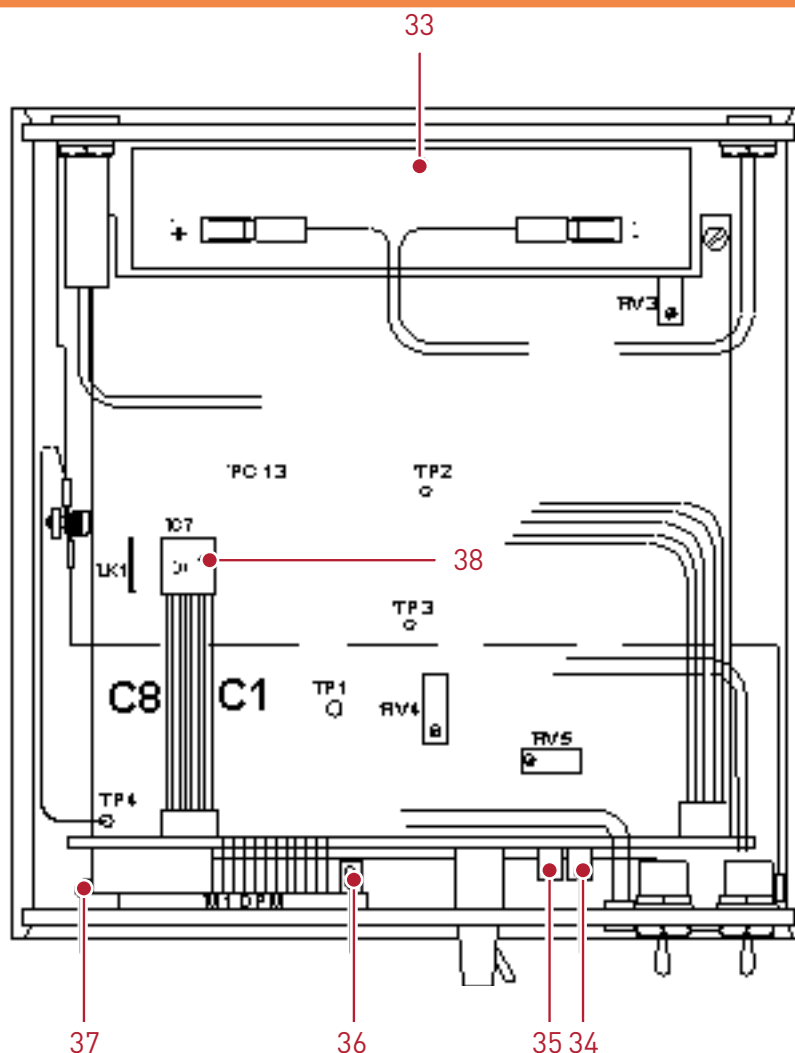

Figure 10. Mag-01H: internal view for cable replacement.
Key to Figure 10
See Figure 10 for battery location.
See Figure 10 for reference. The electronics in the magnetometer unit must be exposed to perform this alteration as a potentiometer inside the casing must be adjusted.
- Adjust the x10 offset potentiometer (item 35 in Figure 10) to produce a displayed magnetometer value of 00000.
- Adjust x1 offset potentiometer (item 34 in Figure 10) to produce a value of 0000.